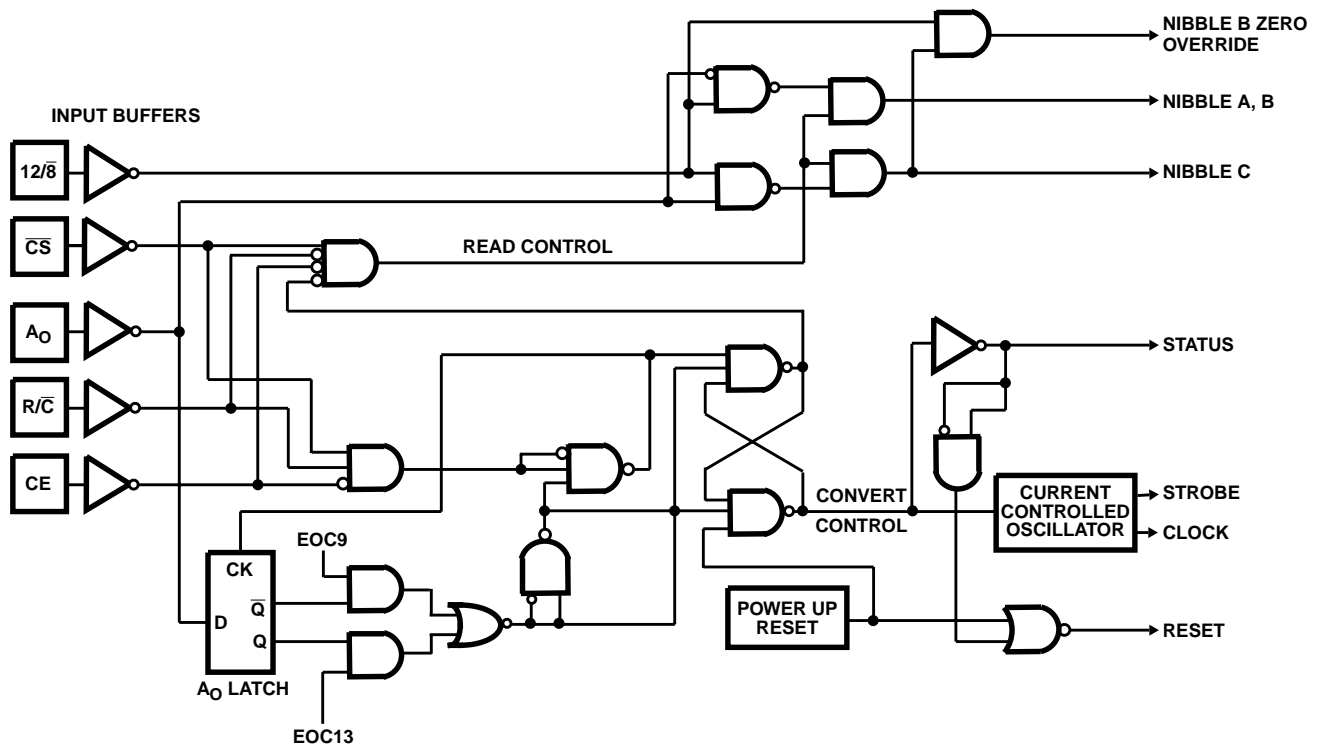

FIGURE 7. HI-774 CONTROL LOGIC
The HI-X74(A) includes logic for direct interface to most microprocessor systems. The processor may take full control of each conversion, or the converter may operate in the “stand-alone” mode, controlled only by the R/C input. Full control consists of selecting an 8-bit or 12-bit conversion cycle, initiating the conversion, and reading the output data when ready—choosing either 12 bits at once or 8 followed by 4, in a left-justified format. The five control inputs are all TTL/CMOS-compatible: (12/8, CS, A_O, R/C and CE). Table 1 illustrates the use of these inputs in controlling the converter’s operations. Also, a simplified schematic of the internal control logic is shown in Figure 7.